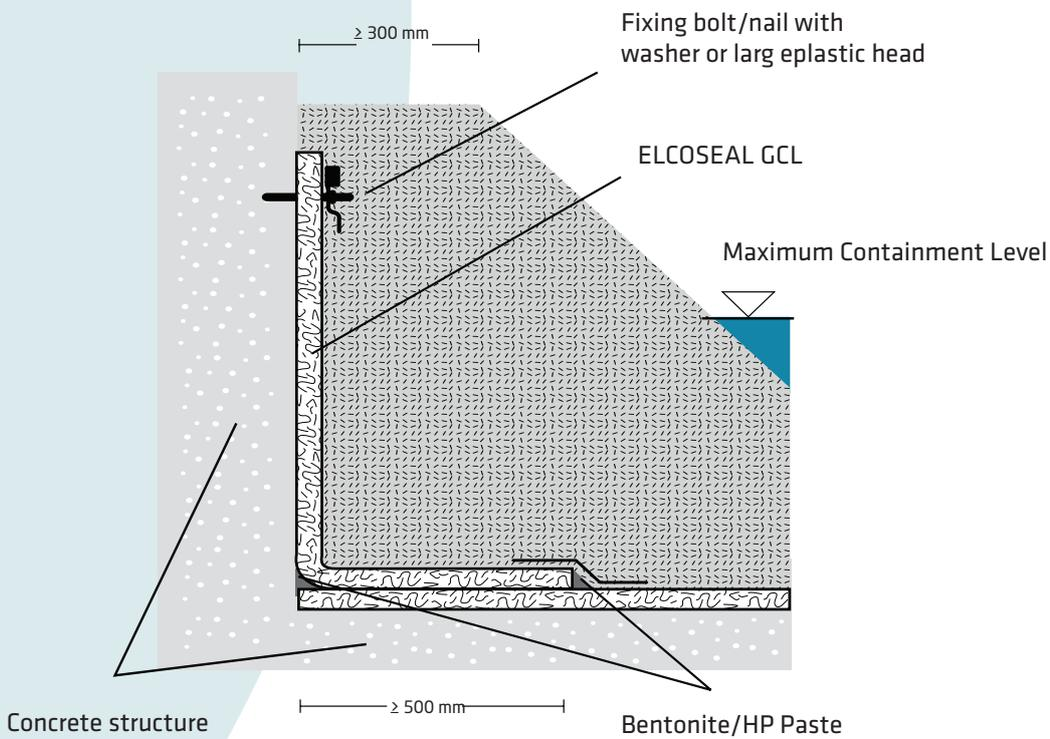

Figure 12a Typical connection to a concrete structure where the ELCOSEAL panel is required to extend above the maximum containment level
- Attachment and sealing against concrete structures, can be achieved according to Figures 12a and 12b. These typical connections are appropriate where the structure needs to be waterproofed to a height above and below the maximum containment level. Temporary fixing of the vertical ELCOSEAL panel to the structure (as shown) is required to allow the backfill placement;